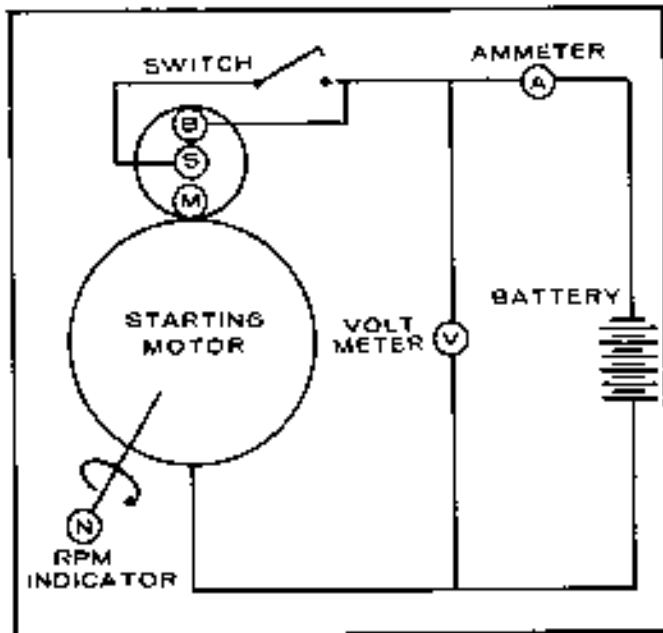

FIGURE 18-23. NO LOAD TEST WIRING
1. For no load test, wire the starting motor as shown in Figure 18-23. With the motor running the meter readings should be as follows.